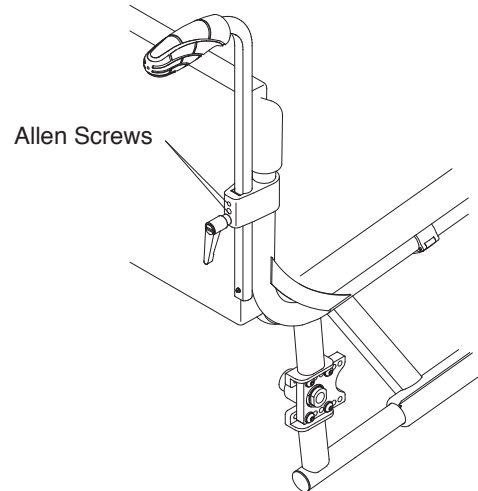

Figure 25
1. Loosen the two Allen Screws that secure the push handle inside the push handle clamp, See Figure 25.